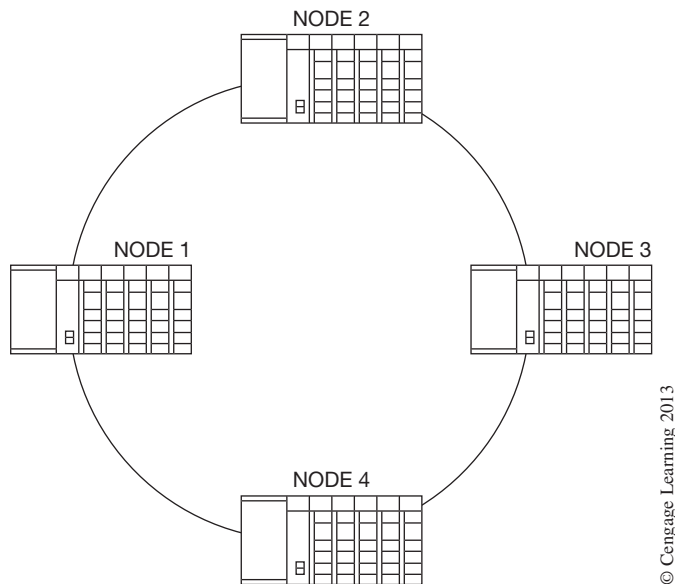

Figure 20-5 Ring Topology
- Ring Topology**—A ring network is a topology in which nodes are connected in series to form a ring (see Figure 20-5). This type of network requires each node to participate in the distribution of the information along the network. Data packets are transmitted